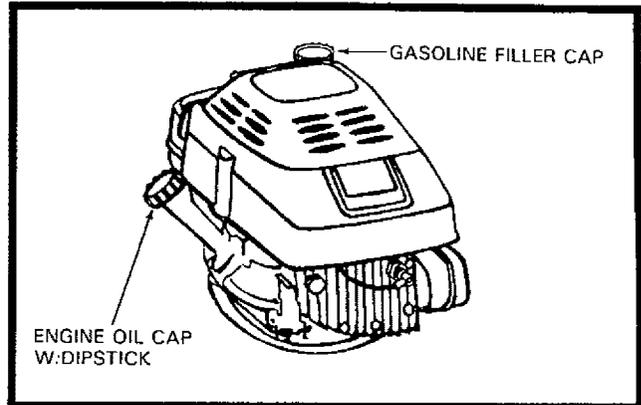

FIG. 9
- Remove engine oil cap with dipstick (See Fig. 9) and fill to the FULL line on the dipstick.
- After the first two (2) hours of mowing, change the oil, and every 25 hours thereafter. You may need to change the oil more often under dusty, dirty conditions.
- Fill gasoline tank with fresh, clean unleaded gasoline. DO NOT USE PREMIUM GASOLINE. BE CAREFUL NOT TO OVERFILL TANK (SEE FIG. 9).